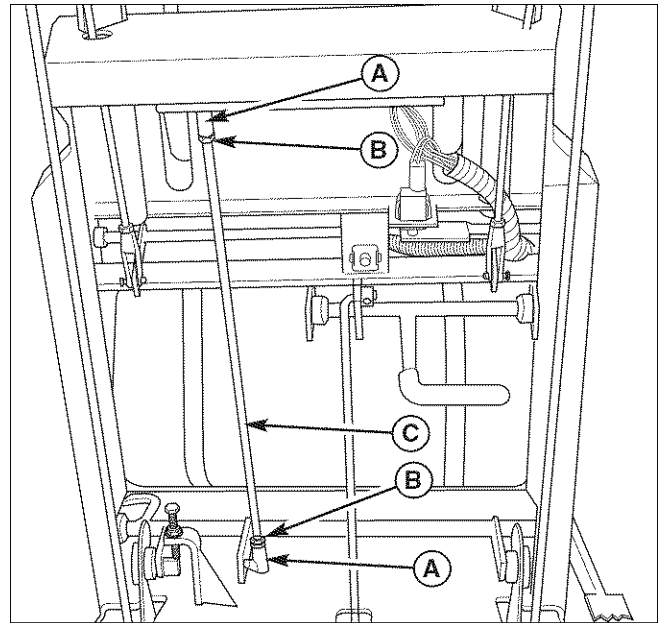

Figure 29. Neutral Adjustment
2. There are two jam nuts (B, Figure 29) on the linkage rod (A). Loosen the jam nuts on the linkage rod and turn the linkage rod to adjust. If the machine creeps forward, turn the rod COUNTER-CLOCKWISE (while standing at the rear of the machine, looking down), if the machine creeps backward, turn the rod CLOCKWISE.
3. Lock the jam nuts (B) against the ball studs when neutral is achieved.